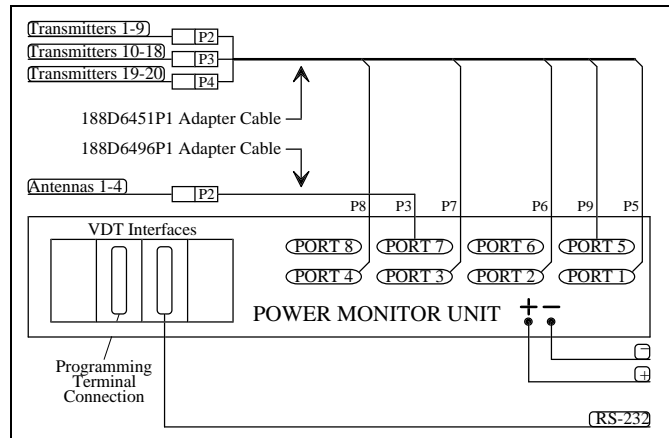
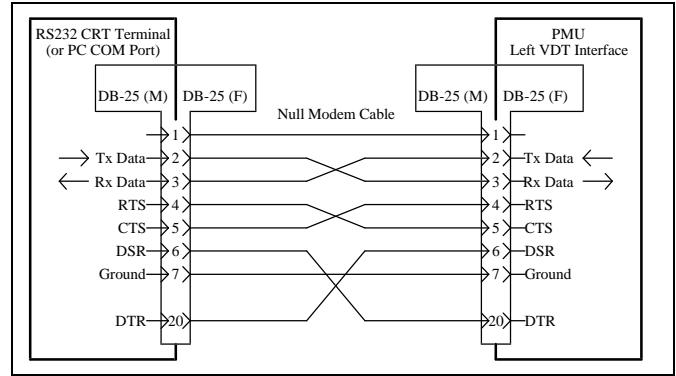
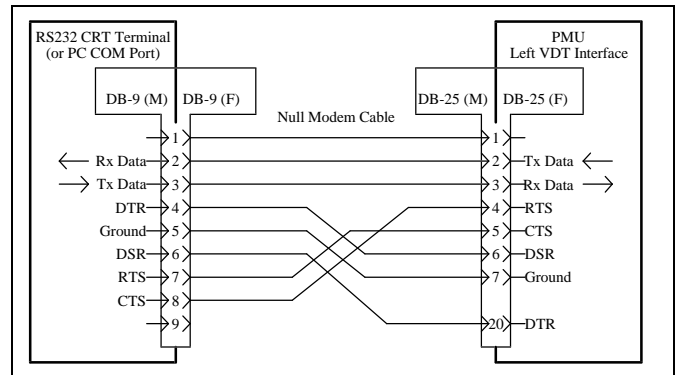

Figure 12 - Connections for Adaptation from Old PMU
Figure 13 - DB-25 Terminal Connections
Figure 14 - DB-9 Terminal Connections
9. Double check the installation using the interconnection diagram shown in Figure 12.
1. Connect the RS232 CRT terminal to the left-hand VDT Interface connector on the back of the PMU (see Figure 12). (DO NOT plug into the front of the PMU.) If the RS232 CRT terminal has a male DB-25 port, connect per Figure 13. If the terminal has a male DB-9 port, connect per Figure 14.